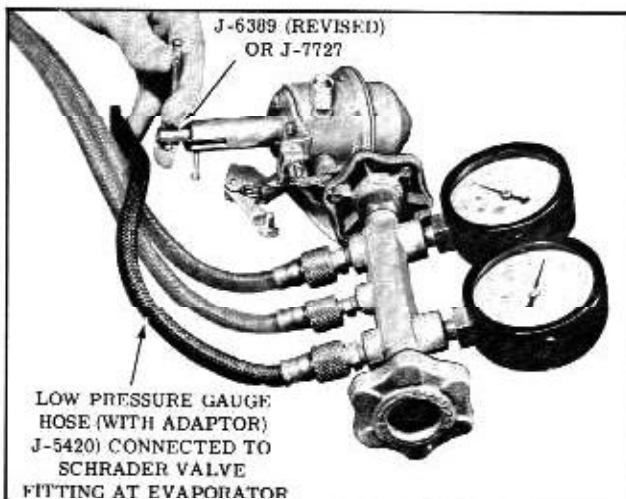

Fig. 14-33 "Hot Gas" By-Pass Valve Adjustment
6. Observe pressure gauge and adjust valve only if pressure is not 23.5 to 24.5 p.s.i. (Fig. 14-33)